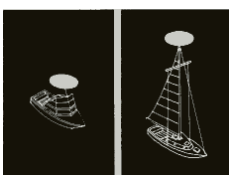

Figure 7—
Anchored boats: Motorboats and sailboats at anchor must display anchor lights. An anchor light for a watercraft less than 50 meters (164 feet) in length is an all-around white light, visible for two (2) miles exhibited where it can best be seen (see Figure 7).